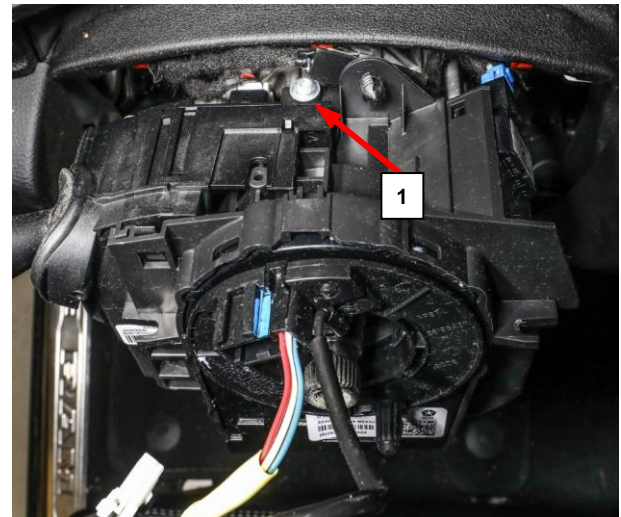

Figure 8 – SCCM
22. Remove the screws (1) (Figure 8 and 9).
4. Install and securely tighten the SCCM screws (1) (Figure 8 and 9).